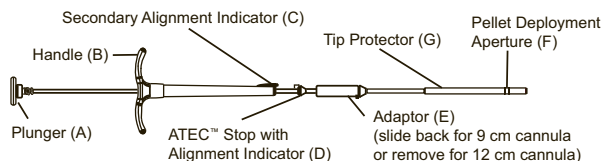

Figure 1
- Maintain correct alignment of the indicators (C & D in Figure 1) with the sample notch when dispensing pads.
DIRECTIONS FOR USE (Refer to Figure 1)